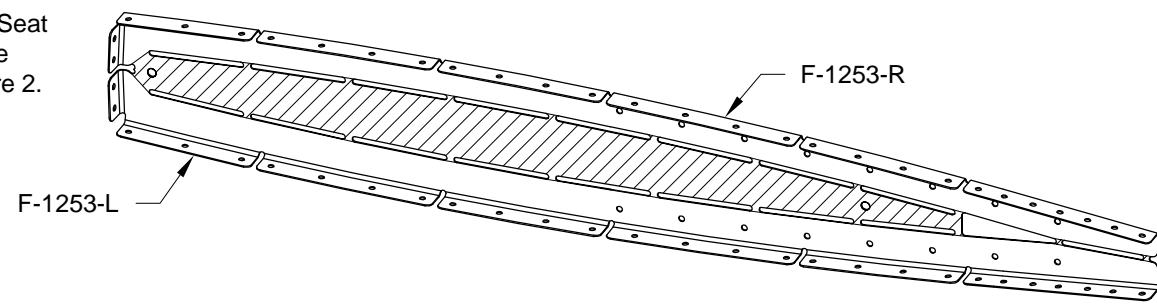

FIGURE 2: SEPARATE F-1253 SEAT FLOOR SUPPORT
Step 5: Separate the F-1253 Seat Floor Support by removing the hatched areas shown in Figure 2.